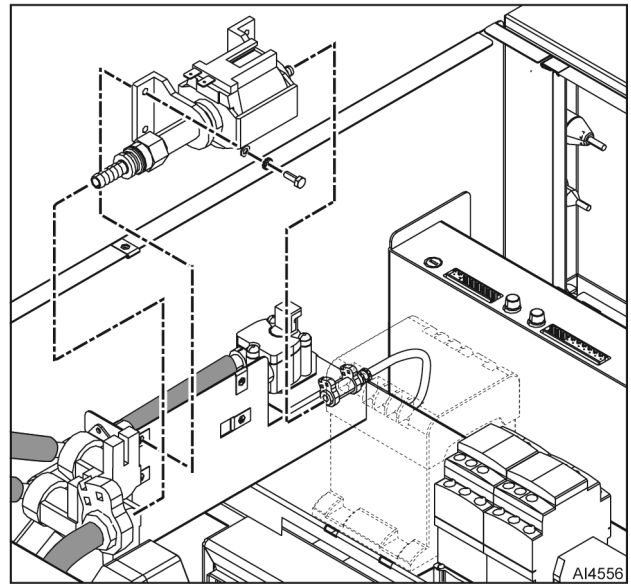

Fig. 50
3. Disconnect hoses from detergent pump (Fig. 50).